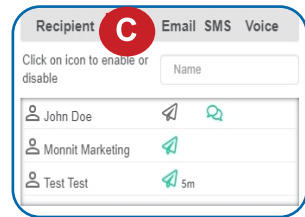

Figure 19
- C. Recipient list identifies who will receive the notification. See Figure 19.